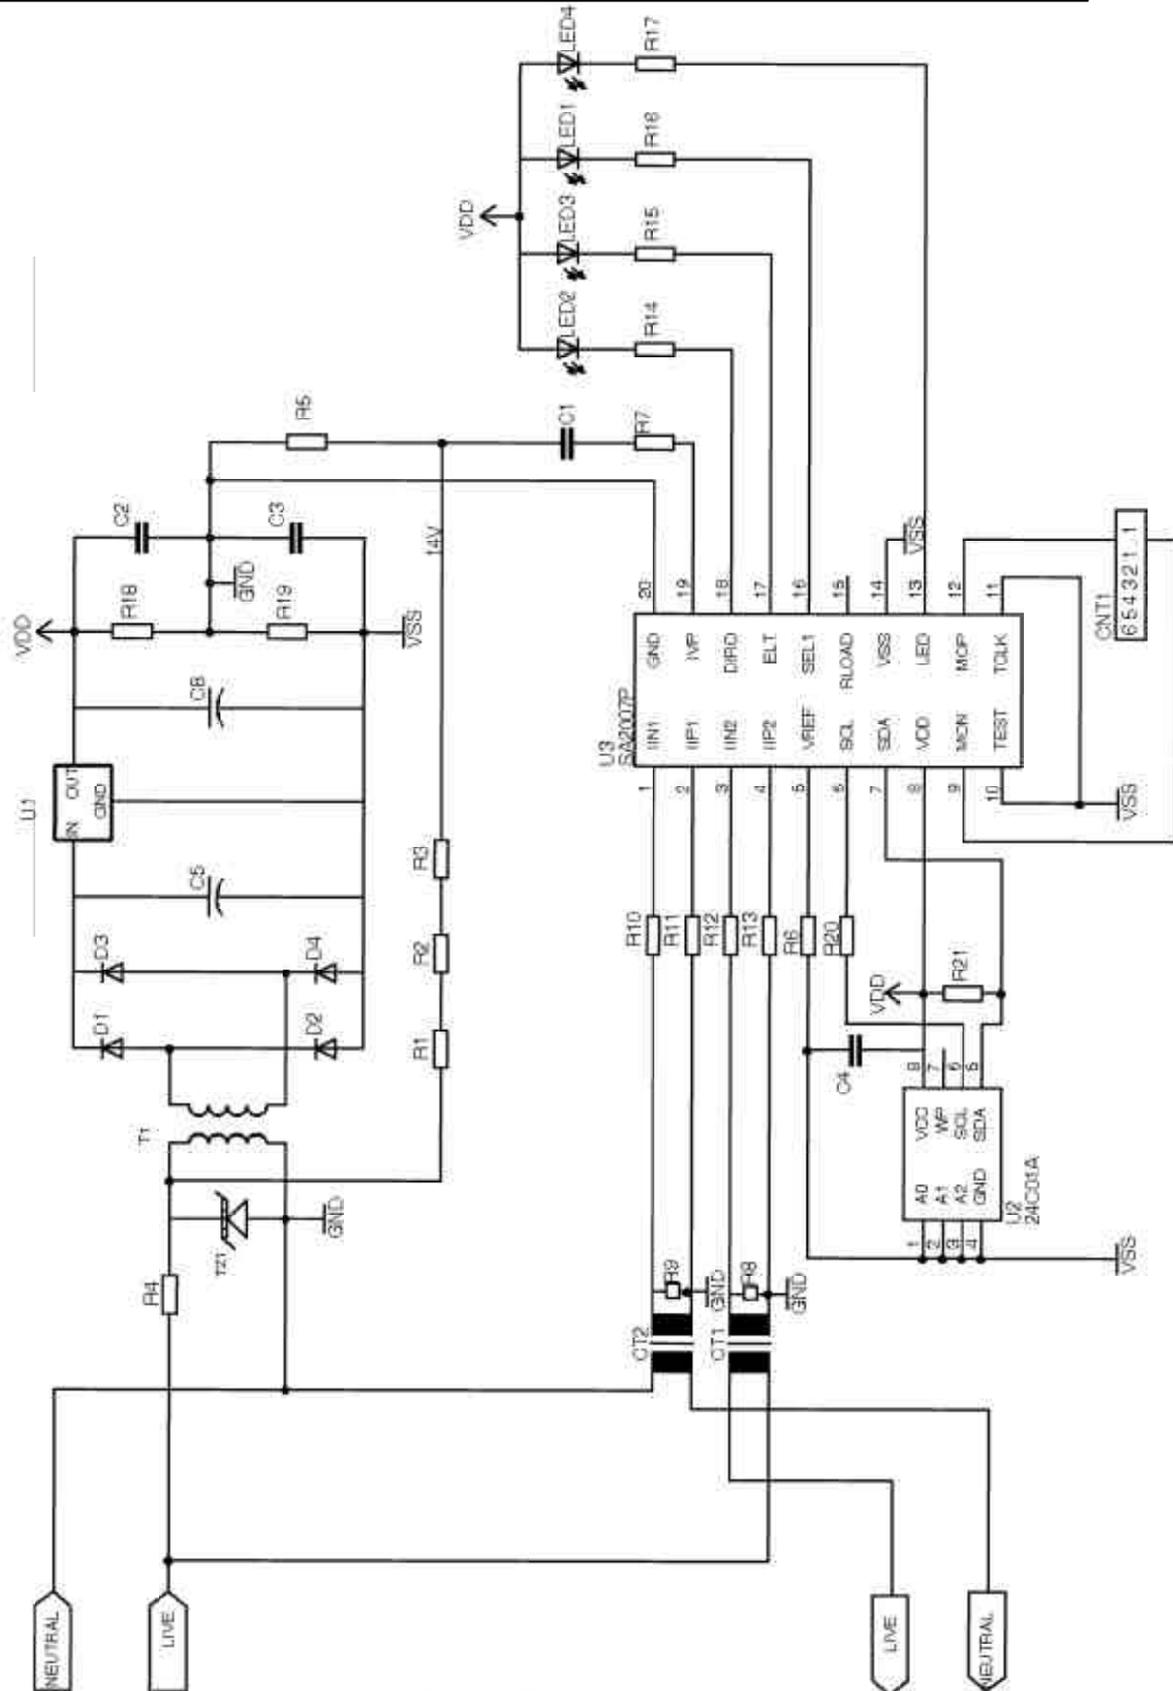

Figure 7: Typical application circuit
**Parts List for Application Circuit: Figure 7**